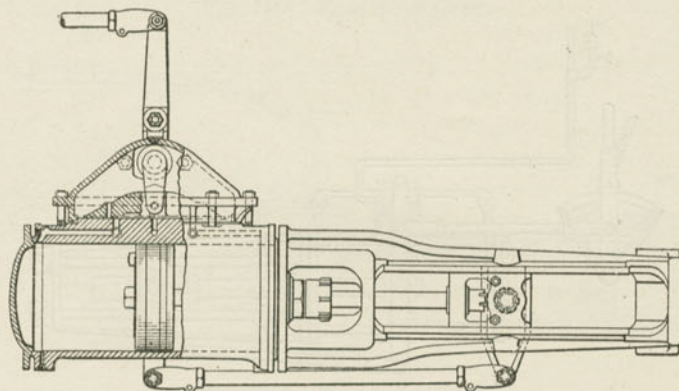

Fig. 200. Ragonnet Power Reverse Gear.
A. As illustrated in Fig. 200, there is a cylinder with slide valve operated by the reverse lever in the cab; the piston in the cylinder controlling the position of the link or the block, as the case may be. Movement of the reverse lever opens the port at one end of the cylinder to air pressure, the other port to exhaust. The piston then moves until the cut off corresponds to that indicated